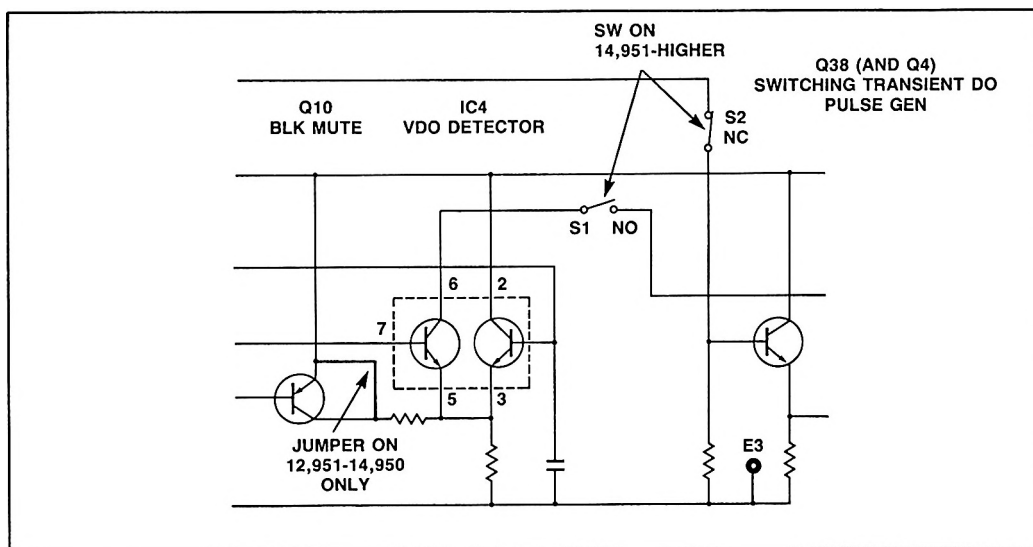

Figure 1
Two switches (S1 and S2) have been added to the YD-8 Board in units with S.N. 14,951 and higher. These switches provide manual control of the Video Dropout Detector and the Switching Noise Suppressor. (See Figure 1.)
**NOTE:** On YD-8 Boards in units with S.N. 12,951-14,950, a jumper was factory installed between E and C of Q10. (See Figure 1.) With this jumper in place, the VDO Detector is disabled. Remove the jumper for transient suppression.